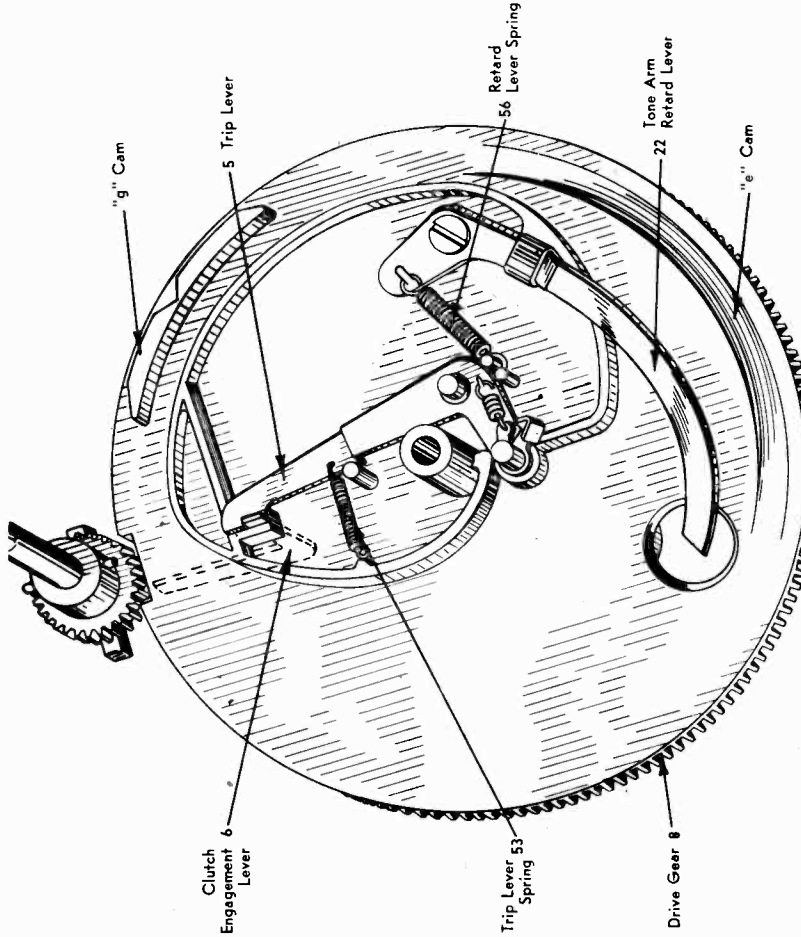

FIG. 28. TOP VIEW
2. To prevent action of the booster spring (23) until such a time that the needle has actually landed on the margin of the record. (See fig. 28)
3. Tone arm retard lever (22) binds. Examine its pivot point for foreign matter between gear casing and shoulder screw. Also examine retard lever spring (56) for proper action. (Fig. 28)
- 6.** Trip lever (5) binding at its pivot point and failing to unlatch engagement lever. Examine for foreign matter between gear casting, lever and shoulder screw. (See fig. 28)
- 1. FAILURE OF CLUTCH ENGAGEMENT LEVER (6) TO LATCH.** With the mechanism stopped in the playing position (pinion in open tooth portion of drive gear), latch the clutch engagement lever with the aid of a pencil and unlatch by moving the control knob to "REJECT." Repeat this several times. If it fails to latch:
- a. Examine the trip lever (5) for binds or insufficient tension in the trip lever spring (53). Replacement of a weak spring will give a positive latch-up. Do not increase tension to a point where it will cause a trip failure. (See fig. 28)
- b. Control knob binding in "REJECT" position due to sticking control slide (1) or its associated levers and springs. Examine for loose or missing springs.